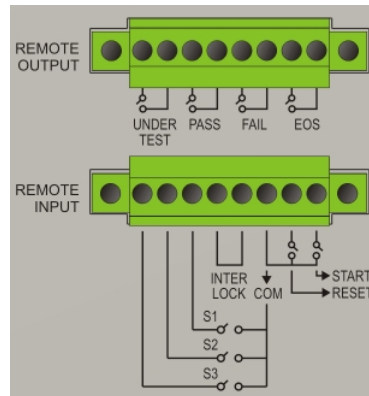

Figure 4-24
5. Pin diagram of REMOTE CONTROL as *Figure 4-24*. When users desire to control by external, please remember this pin diagram.